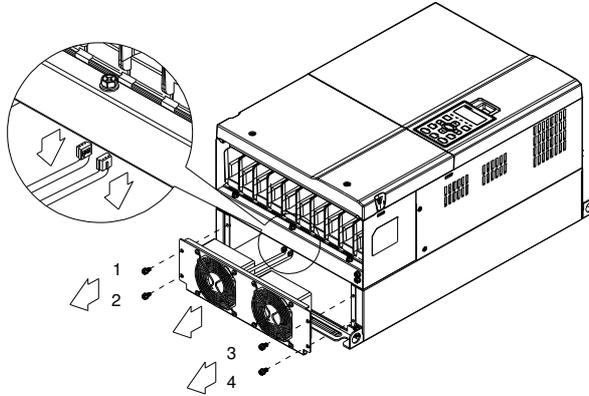

Figure 1
2. (As shown Figure 1) Before removing the fan, remove the cover by using a slotted screwdriver.